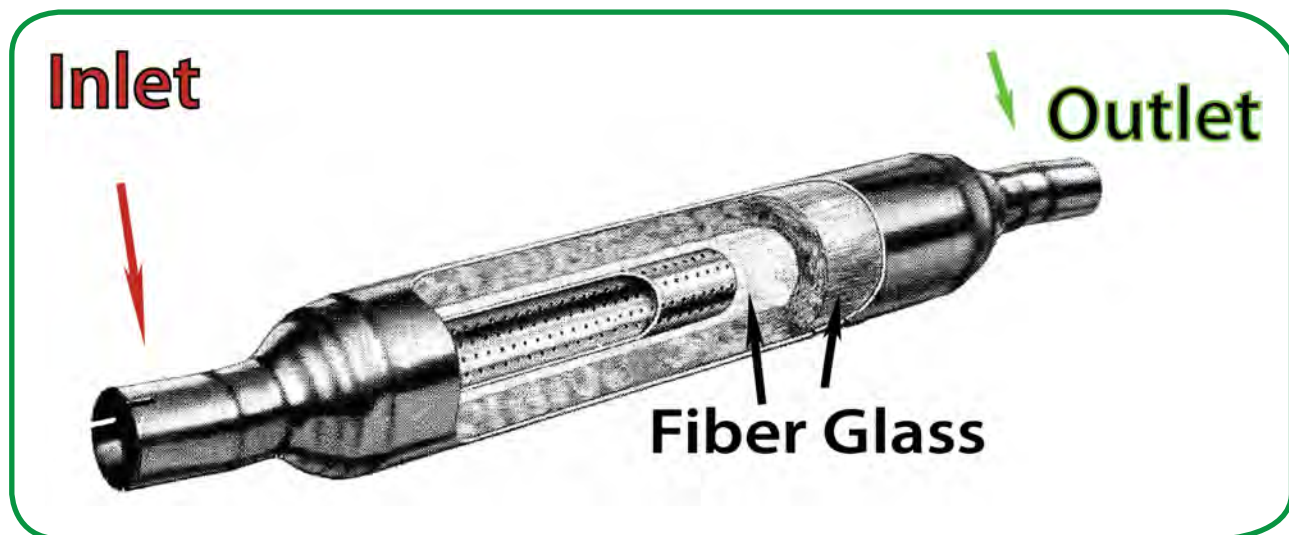

Figure 5-4. An example of a "straight-through" muffler. Heavy fiber glass packing is used around a perforated tube.
2. Glass Pack and Steel Pack mufflers have a straight through design. The exhaust goes through a perforated pipe surrounded by glass, wool or metal shavings. Refer to figure 5-4.